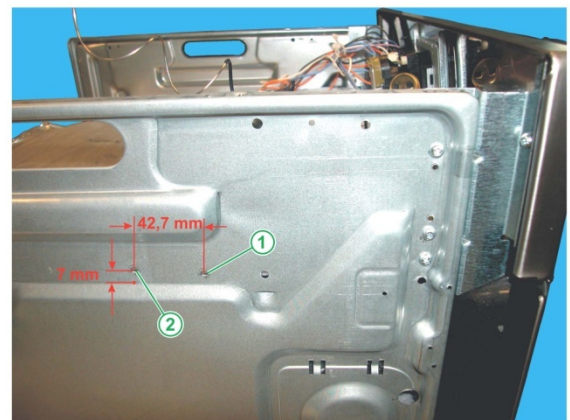

Fig. 10
12. In the appliances where they are missing, make 2 new holes as shown in figure 10 and 11 to fix the new sheet metal controls protection.